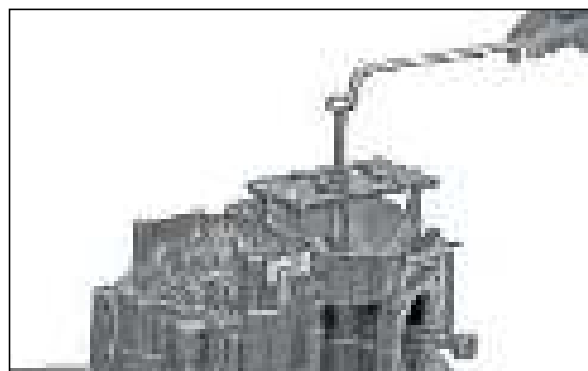

Fig. 3.145
- Using special tool, separate the crankcase assemblies by pulling the crankcase complete L. (Fig. 3.145)